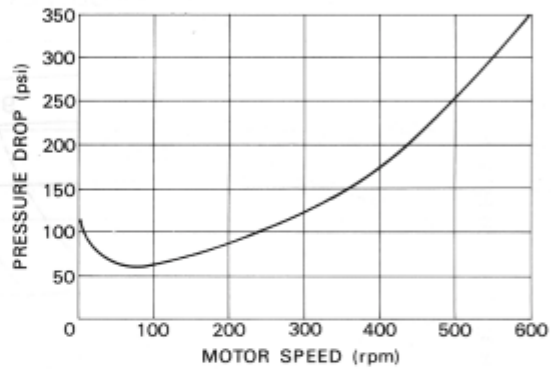

Fig. 8 Bearing Life and Motor Shaft Radial Load
- In order to maintain the maximum bearing life, when a radial load is imposed on the output shaft the motor should be installed as illustrated in Fig. 8.